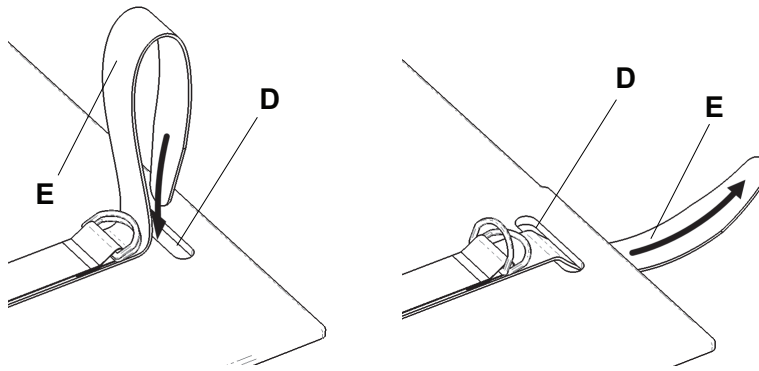

Figure 2 – Insert tie down straps
8. Thread the tie down strap (E) through the Fowler hole (D) (Figure 2).